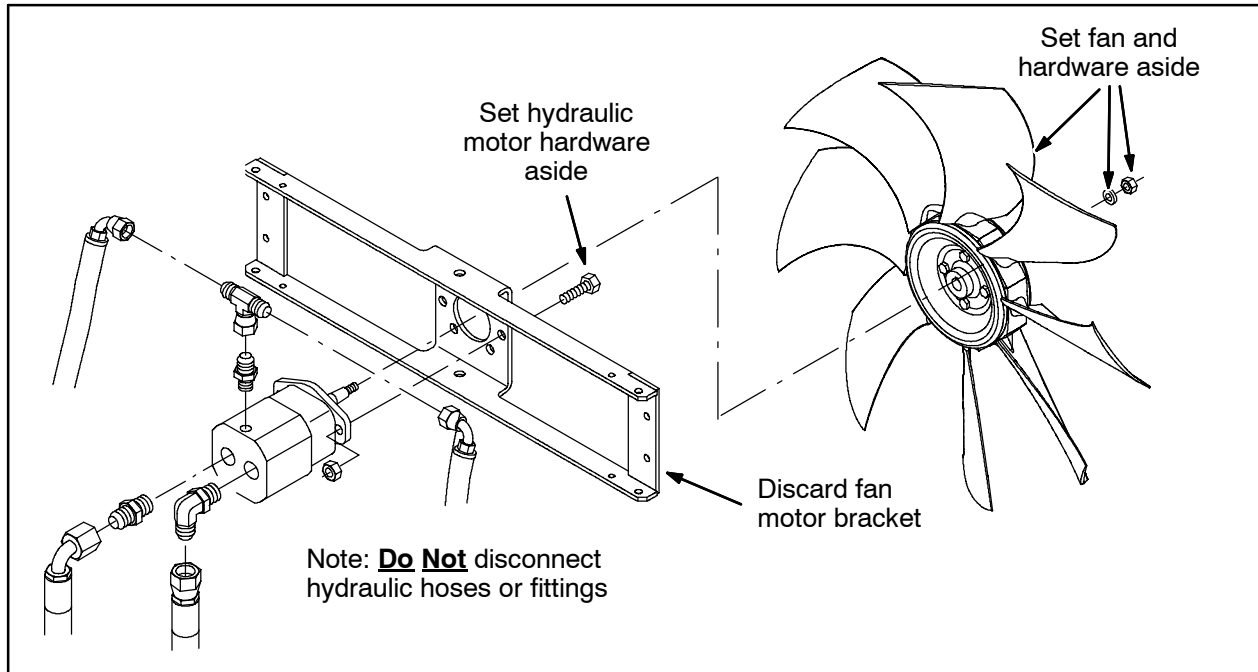

FIG. 3
3. Remove the fan from the fan hydraulic motor. Set the fan and mounting hardware aside. Refer to Fig. 3.
4. Remove the fan hydraulic motor from the fan motor bracket. Carefully set the hydraulic motor out of the way inside the engine compartment. **Do Not** disconnect hydraulic hoses / fittings when removing the hydraulic motor from the bracket. Set all mounting hardware aside. Discard the fan motor bracket. Refer to Fig. 3.
13. Install the fan hydraulic motor onto the new hydraulic motor mounting bracket (7). Refer to Fig. 3.
14. Reinstall the fan onto the hydraulic motor. Refer to Fig. 3.
15. Install the cooling fan assembly assembled in the previous two steps onto the radiator shroud (1).